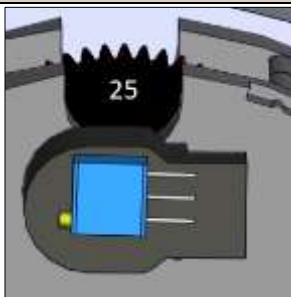

Figure 3.4-4: 25% Air/Fuel Valve Ignition Position
- The Air/Fuel Valve rotates to the low-fire ignition position and closes the **Ignition** switch. The dial on the Air/Fuel Valve will read between **25** and **35** (Figure 3.4-4) to indicate that the valve is in the low-fire position.